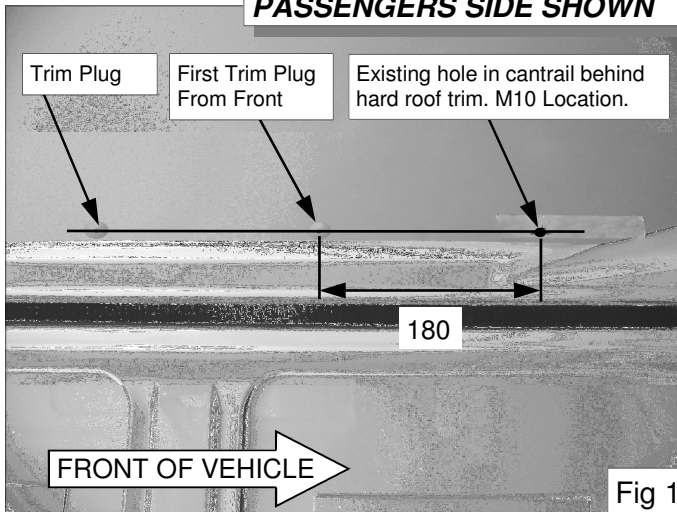
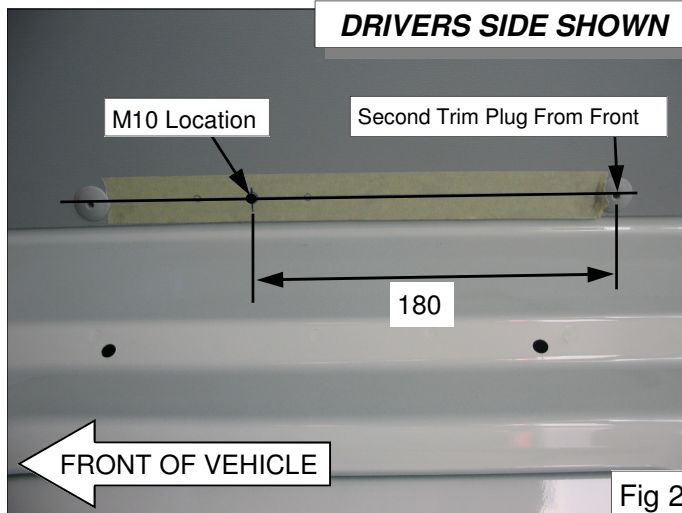

Fig 1
Fig 2
- If fitting Dual Siding Door vehicle, mark mounting points as per Figure 1 on both sides.
- If fitting Single Siding Door vehicle, mark passenger side as per figure 1 & drivers side as per Figure 2.
3. Measure 180mm from the centre of the trim plug in roof hard trim toward the front of the vehicle. (Fig. 1)
2. Measure 180mm from the centre of the trim plug in roof hard trim toward the front of the vehicle. (Fig. 2)